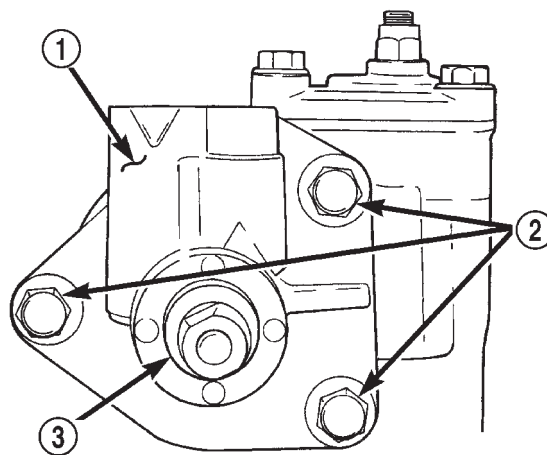

Fig. 4 Stub Shaft Housing
- (1) Remove stub shaft housing bolts (Fig. 4).